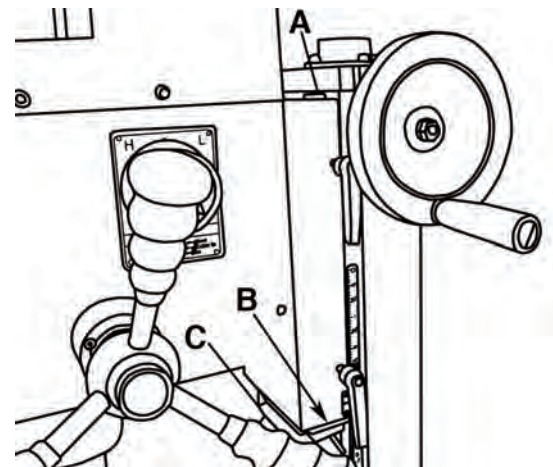

FIGURE 23
To adjust the head gibs (Fig.23):
- 1) Remove the two cap screws that secure the top end of the accordion shaped way cover (C) Fig.23, pull it down to expose the lower gib screw (B), then loosen the vertical head travel lock handles.
- 2) Loosen or tighten the upper and lower gib screws (A & B) Fig.23 in an alternating manner to adjust the head gibs. The head should slide smoothly with no play or looseness. Do not overtighten the gibs or premature slide and gib wear will occur.